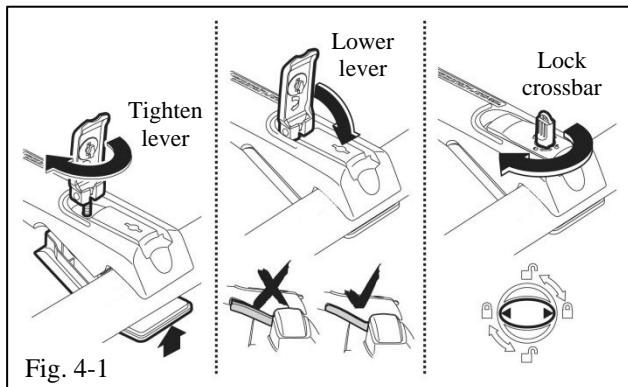

Fig. 4-1
- (a) Turn the lever clockwise to tighten the clamp to the crossbar (2 places) (Fig. 4-1).
- (b) After the lever is tight, back off until the lever lines up with the opening in the support, and close the lever (2 places) (Fig. 4-1).
- (c) Use the supplied key to turn the lock in the lever to lock the crossbar in position (2 places) (Fig. 4-1).